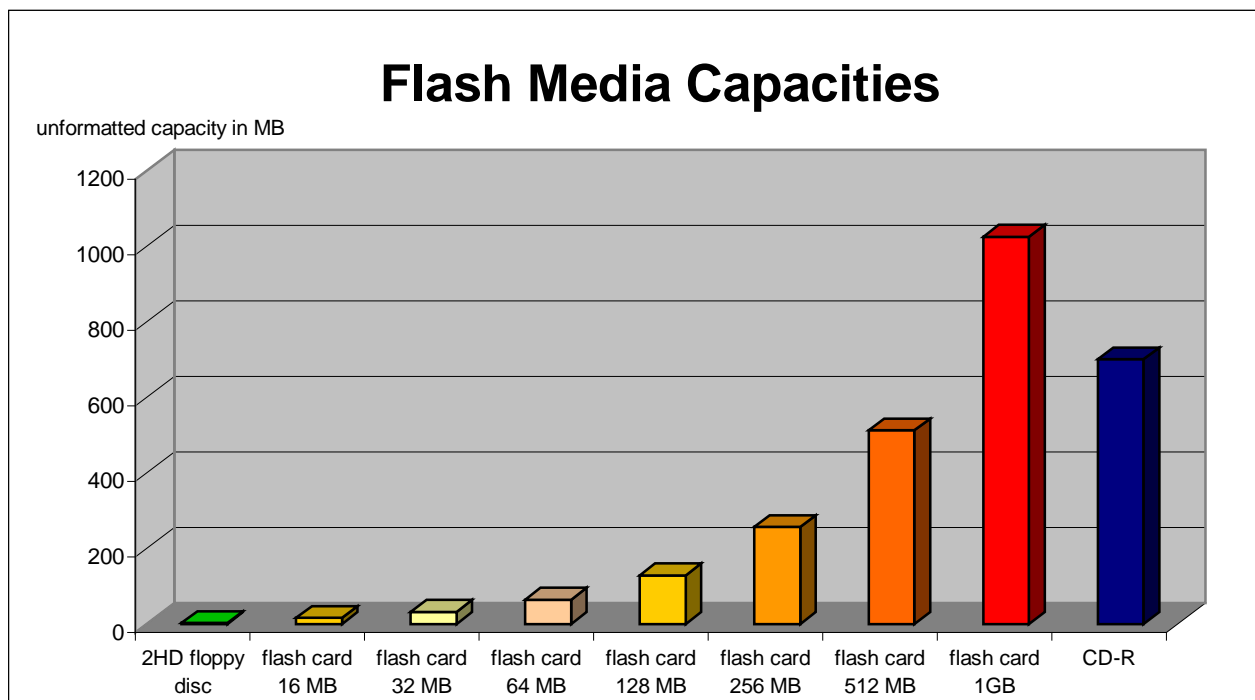

Figure 1
- high storage capacity (Figure 1)